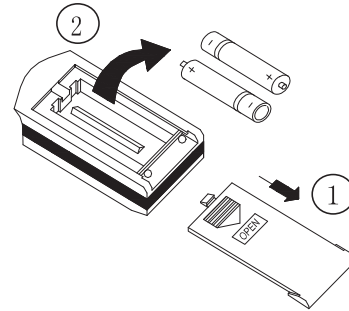

Fig.1
1. Slightly to press the place with  along the arrowhead direction to push the back cover of remote controller. (As show in Fig 1.)